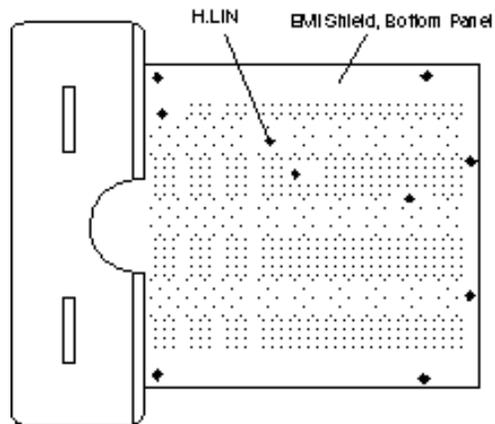

FIGURE 10
6. Using the hex alignment tool, turn the horizontal linearity (H.LIN) control **(Figure 10)** until the boxes at the left of the display are the same size as those at the right. (With the monitor on its side, keep in mind that the left and right sides of the display are on the top and bottom.)